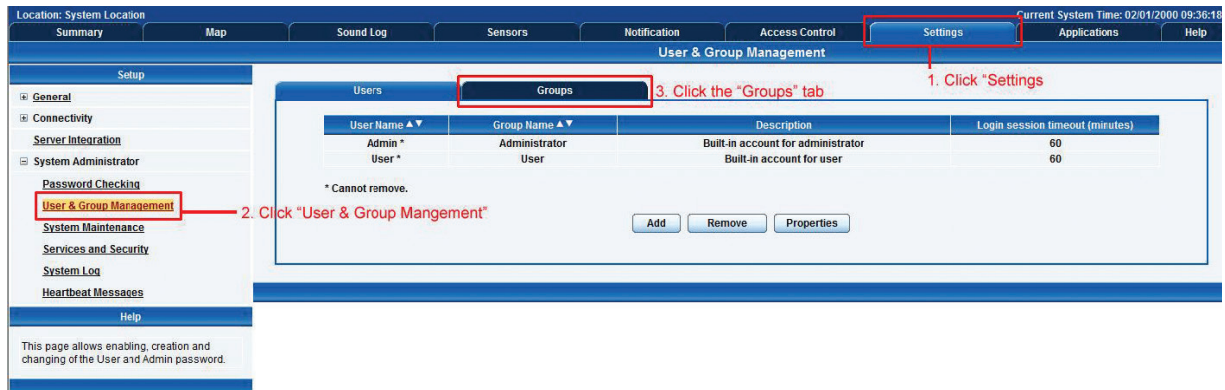

Figure 3-14. Group setup screen.
2. Click on the Settings page, then System Administrator, then User & Group Management as shown in Figure 3-14.